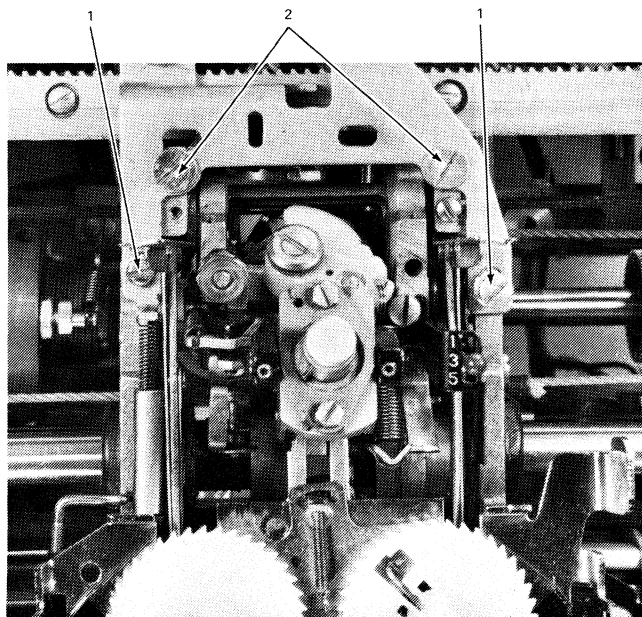

Figure 4-4. Escapement Bracket Removal
2. Remove the two card-holder screws (No. 1, Figure 4-4).
3. Remove the two escapement bracket screws (No. 2, Figure 4-4).